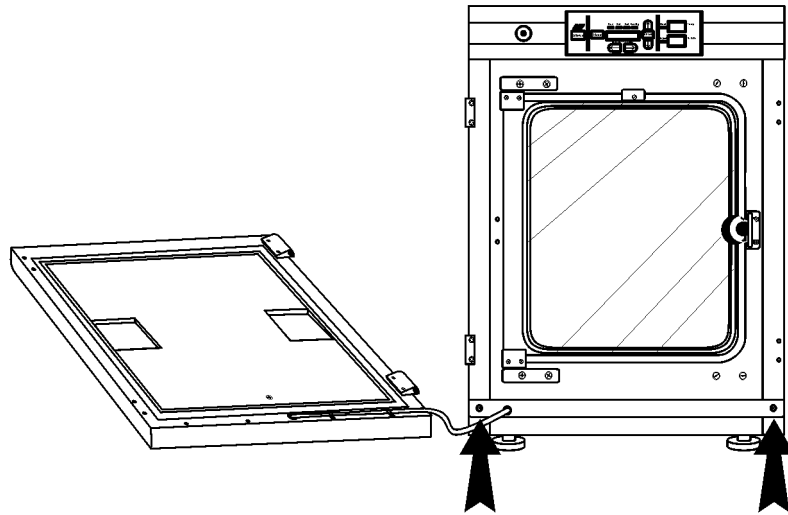

Figure 5-2. Remove Two Screws
2. Open the outer door and remove it by lifting it off its hinge pins. Place the door on a padded surface to prevent scratches (Figure 5-2).
3. Refer to the illustration of the outer door in Figure 5-2. With a Phillips screwdriver, remove and save the four nylon screws from the door hinge mounting holes. The black arrows identify the screw locations.